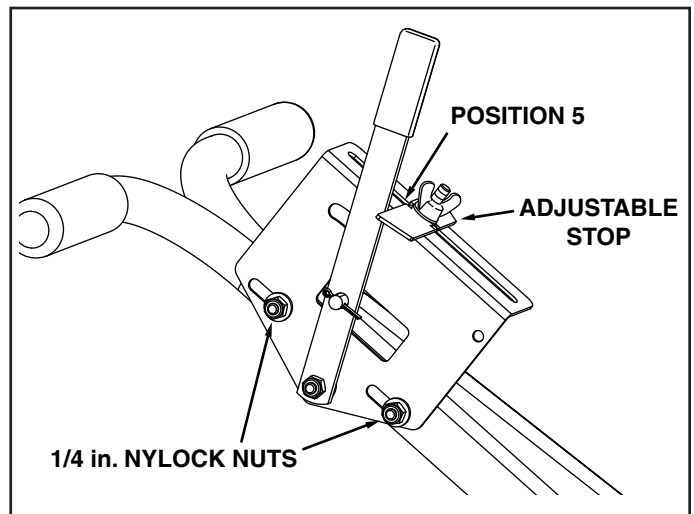

FIGURE 10
14. Adjust the position of the flow control mounting bracket (figures 10 and 11):
- a. Set the adjustable stop at "5." Latch the flow control lever against the stop. Verify that the closure plate has opened about halfway. See figure 10.
(Refer to figure 10 on page 6.)